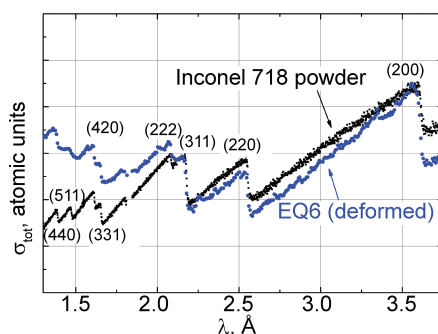

Fig. 5 — Bragg edge mapping comparison of Inconel 718 powder and equiaxed deformed sample EQ6.
After compression, sample EQ6 has greater similarity to the Inconel powder sample (Fig. 2), indicating the absence of preferred crystallite orientation—as if sample grains reoriented during compression. A direct comparison between Inconel powder and the deformed EQ6 sample is shown in Fig. 5. Bragg edges are similar for both, while the (200) edge for powder is higher, illustrating that the (200) orientation is more predominant in the deformed sample. Also, the (511) Bragg edge in the deformed sample is poorly defined, which is likely due to the preferred grain orientation in the sample rather than instrument wavelength resolution, because all measurements were performed at the SNS Vulcan diffractometer under the same beam optic configuration.